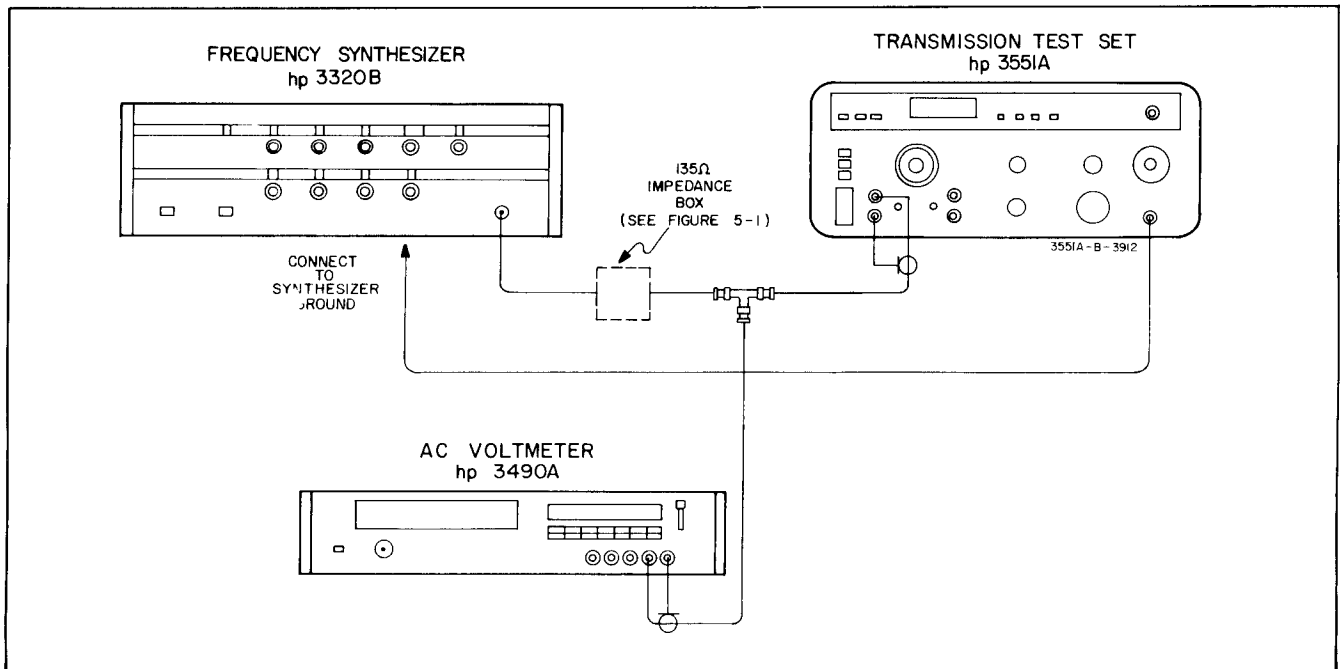

Figure 5-2. Receive Level Accuracy Test Setup.
- a. Connect the equipment as shown in Figure 5-2.